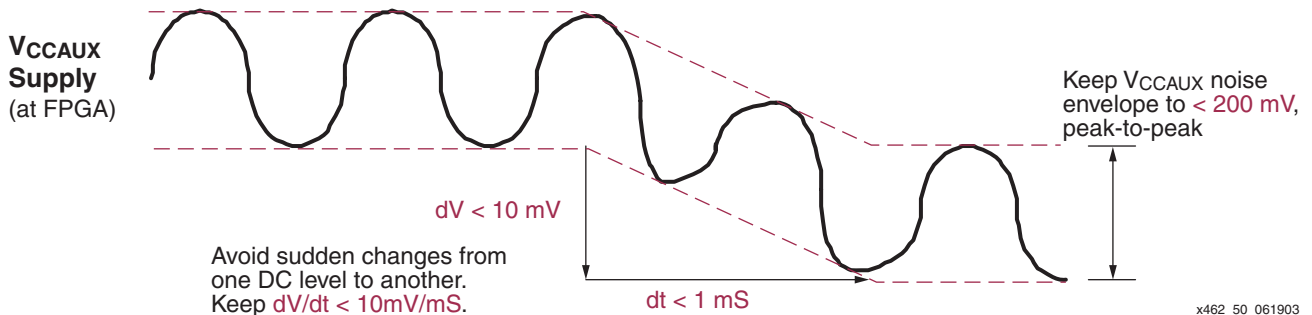

Figure 50: Recommended V_{CCAUX} Supply Considerations Avoid Voltage Droop
1. Limit changes on the V_{CCAUX} power supply or ground potentials to less than 10 mV total or 10 mV in any 1 ms interval, as shown in Figure 50. This recommendation allows the DCM to properly track out the change.
2. Limit the noise at the power supply to be within 200 mV peak-to-peak, as shown in Figure 50.